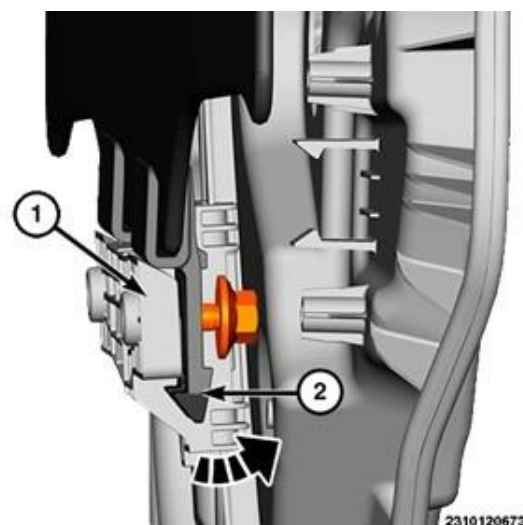

Figure 8 – Window Glass
- (1) - Window Glass
- (2) - Glass Fasteners
- (3) - Access Plugs
15. Using a hook-type tool or equivalent, release the door glass lower tabs (2) from the regulator lift plates (1) (Figure 8).